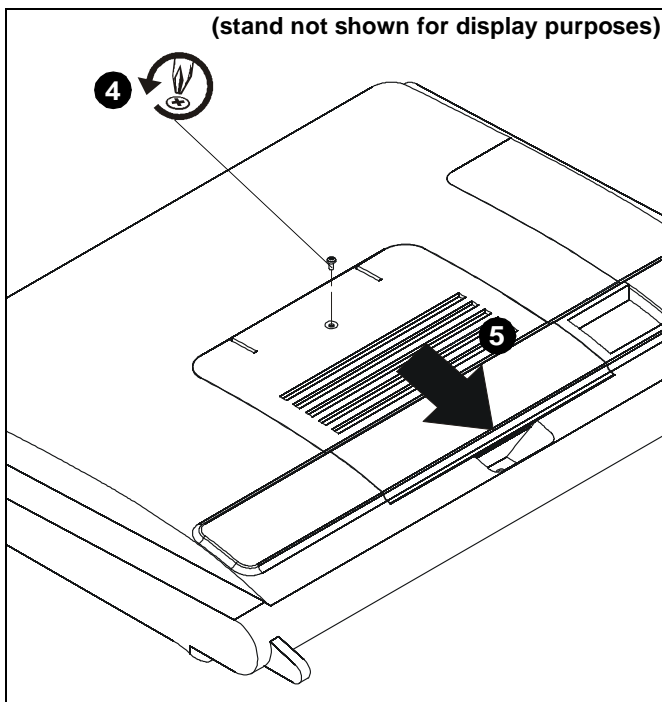

Figure 1
4. Remove screw that holds back cover panel in place. (See Figure 1)
5. Remove back cover panel by pulling up at the very bottom of the cover panel and then sliding it down towards the bottom of the monitor until it is removed. (See Figure 1)